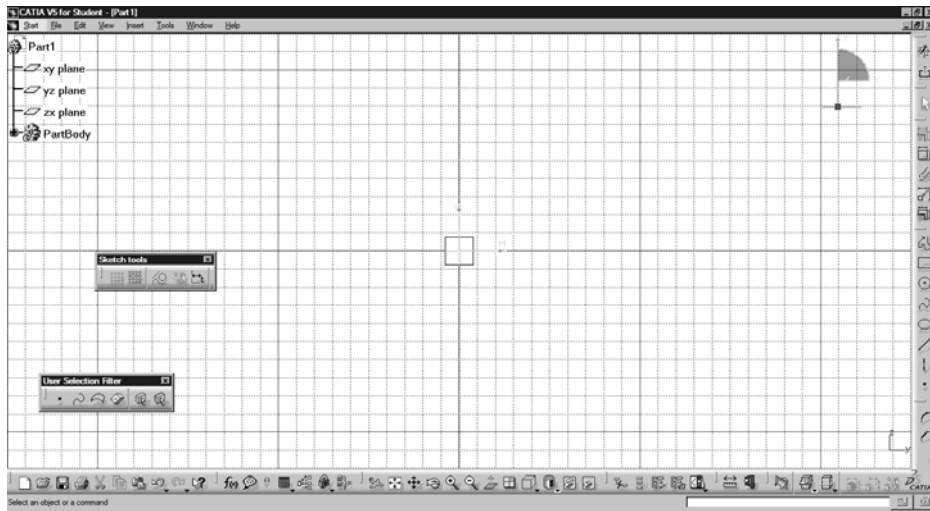

Figure 2-35 The Sketcher workbench screen
6. Choose the **Sketch** button from the **Sketcher** toolbar and then select the **yz plane** as the sketching plane; the **Sketcher** workbench screen is displayed, as shown in Figure 2-35.